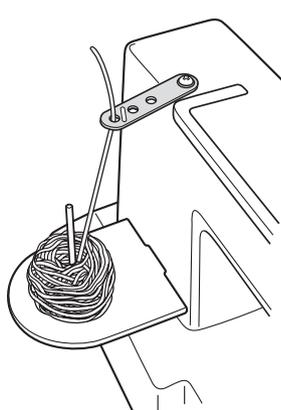

Fig. 1
3. While sitting in front of the machine insert yarn into the third hole of the yarn & ribbon guide as shown in Fig. 1.
NOTE: If the tension of yarn is too tight, use only the third hole of yarn & ribbon guide. (Fig. 1)